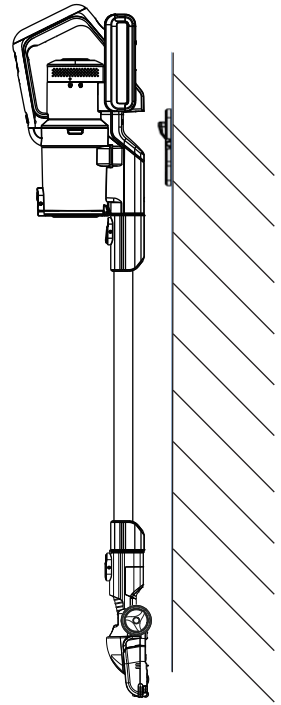

Fig. 8
6. Fit the nozzles onto their storage posts, and insert the assembled vacuum cleaner into the bracket (fig.8).